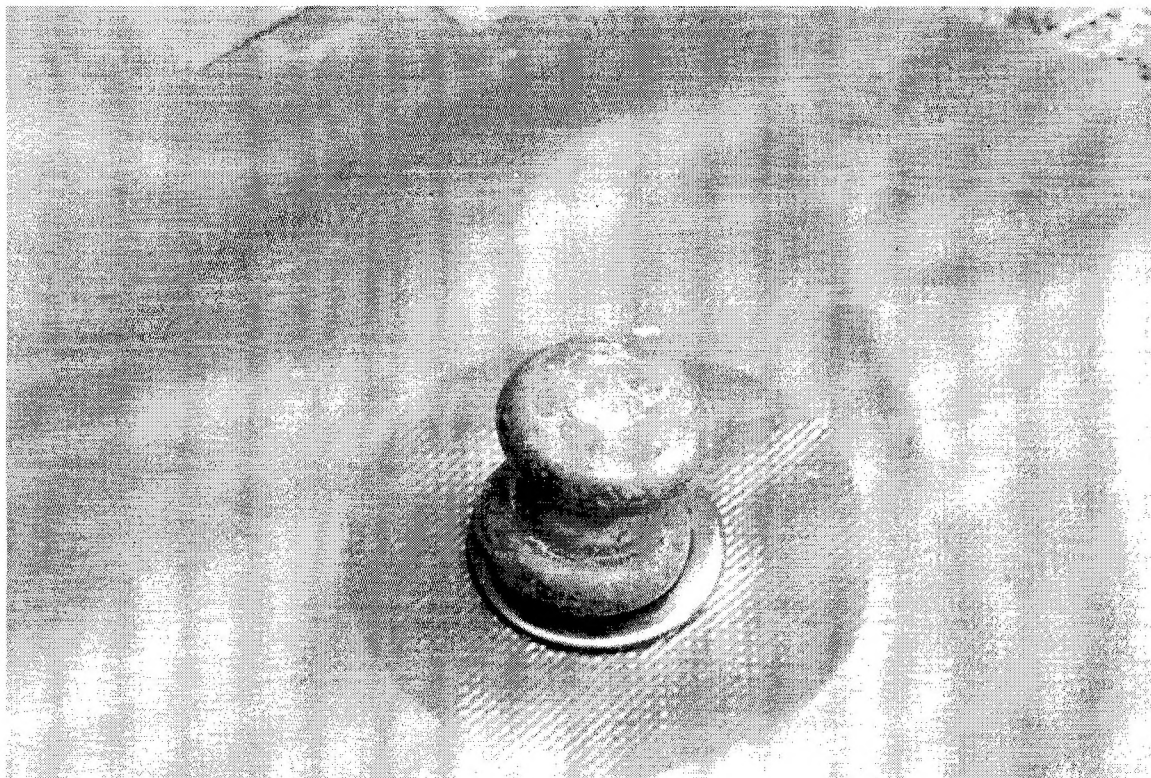

Figure 35: Sod Cloth Pins installed (J11/8340-99-137-3895)
32. The sod-cloth should be pinned through the external eyelets using tent-pins at an angle of 90 degrees from the horizontal (J11/8340-99-137-3895) Fig 35 and internal cords using (J11/8340-99-132-0028) at an angle of approximately 60 degrees from the horizontal Fig 36.